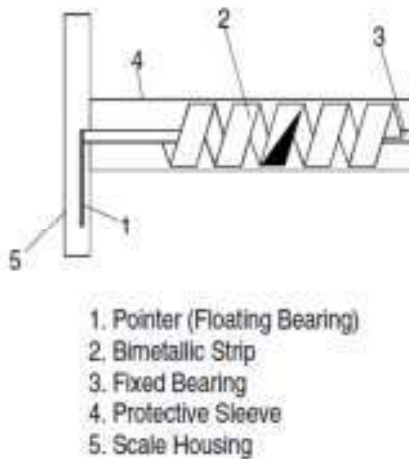

Figure 2: Principle of operation of a bimetallic thermometer
**Bimetallic thermometers** exploit the differential expansion of two different materials to indicate the temperature. Two or more layers of different materials are rolled together, see Fig. 2. During this process, different shapes can be manufactured depending on the application. One end of the sensor is firmly anchored; the other is coupled to a transmission gear or directly to a display device. Variation of the temperature results in expansion of the metallic coil which itself leads to rotation of the free end.